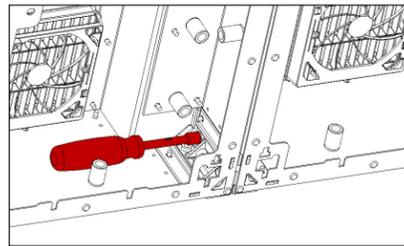

Figure 10: Tighten Bolt
- Use a $\frac{3}{8}$ " nutdriver to tighten the bolts. The minimum torque required is 6 ft-lbs. Avoid over-tightening. After the precision blocks are tight together, additional torque will not tighten the seams and can damage the blocks. Refer to **Figure 10**.